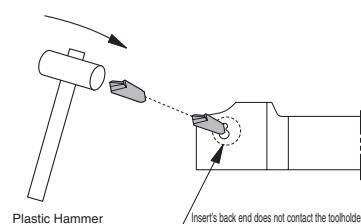

Fig.1 How to attach inserts
- Tap the insert lightly with a plastic hammer to push it into the extent that it can not be removed by hand. (Fig.1)